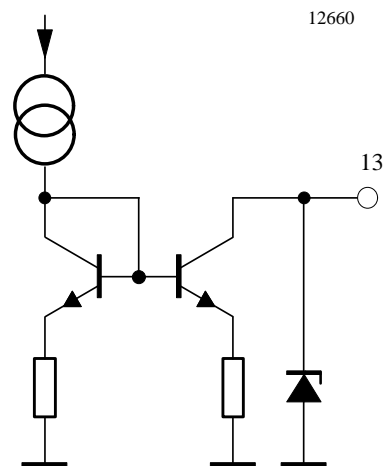

Figure 13. Pin 13 SW_{out}
- 2) Measured at Pin 9, (12) referred to 330 Ω
- 3) Protected by a Z-diode, see figure 13